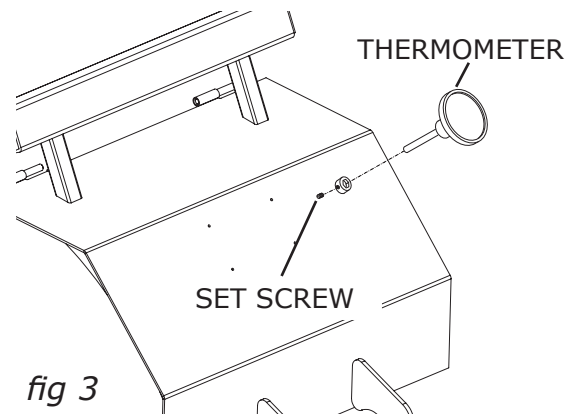

fig 3
4. Insert thermometer (P/N 23584) into base mount then rotate so that the temperature scale reads "right-side-up". Secure thermometer shank with set screw (P/N 832x516SHSSSS). See fig 3.